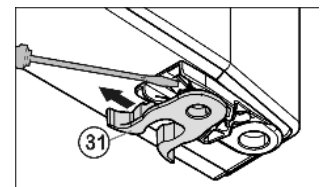

Fig. 11
- ▶ Transfer the spring clamp *Fig. 11 (31)*: Depress the latch nose and pull the spring clamp off over it.